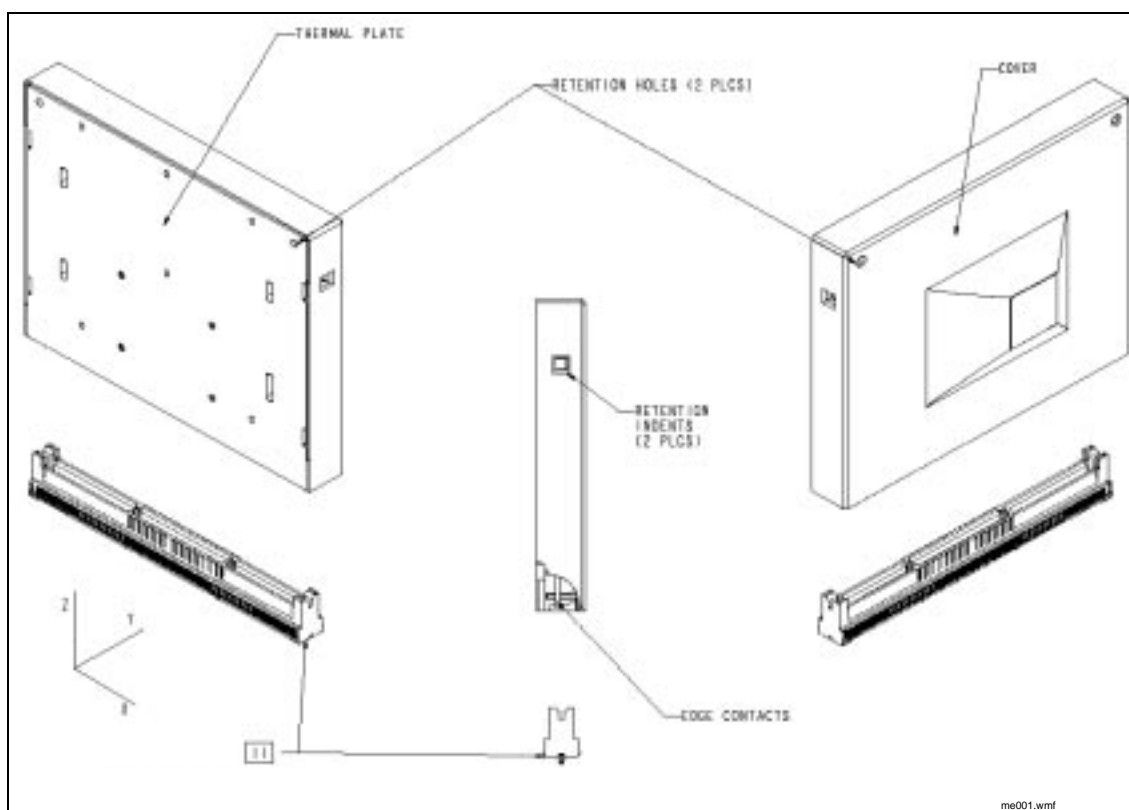
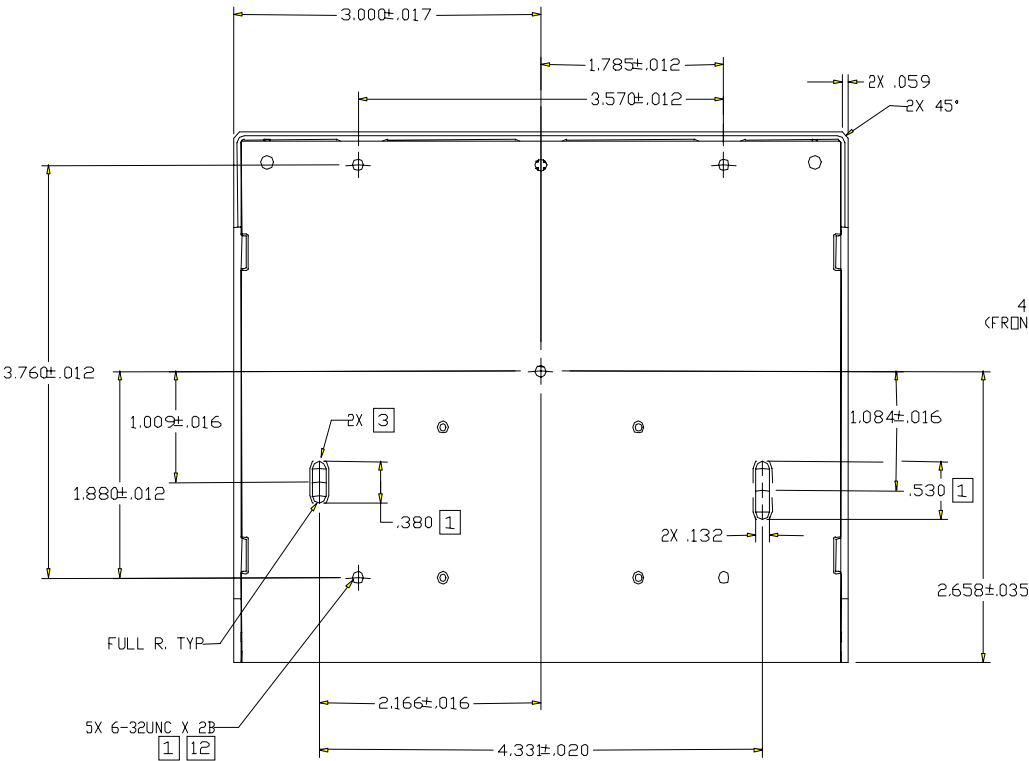

Figure 22. Isometric View of S.E.C. Cartridge
Figure 23. S.E.C. Cartridge Cooling Solution Attach Details (Notes follow)
Figure 22 shows the thermal plate side view and the cover side view of the 600MHz+ Pentium III Xeon processor . Figure 23 shows the 600MHz+ Pentium III Xeon processor S.E.C. cartridge cooling solution attachment feature details on the thermal plate and depict package form factor dimensions and retention enabling features of the S.E.C. cartridge. The processor edge connector defined in this document is referred to as "SC330.1". This connector definition is mechanically the same as the existing SC300. See the SC330 connector specifications for further details on the edge connector.
12. All dimensions in inches for figures 23 through 28.
5. Retention devices for this cartridge must accommodate this cartridge "Float" relative to connector, without preload to the edge contacts in "X" and "Y" axes. (see figure 22 for axis orientation)